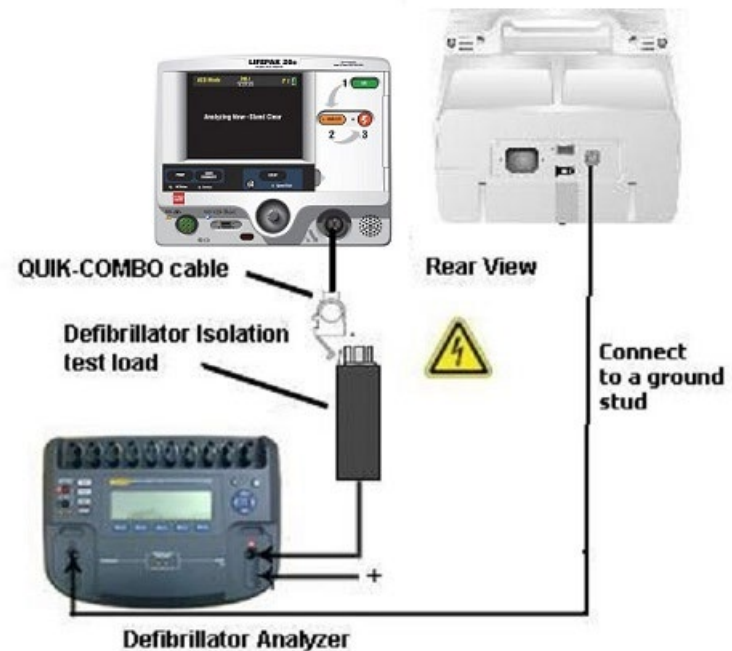

Figure 2.3: Defibrillator Isolation Test Setup
1. Establish TCP- Defibrillator Isolation Test setup as shown in Figure 2.3.